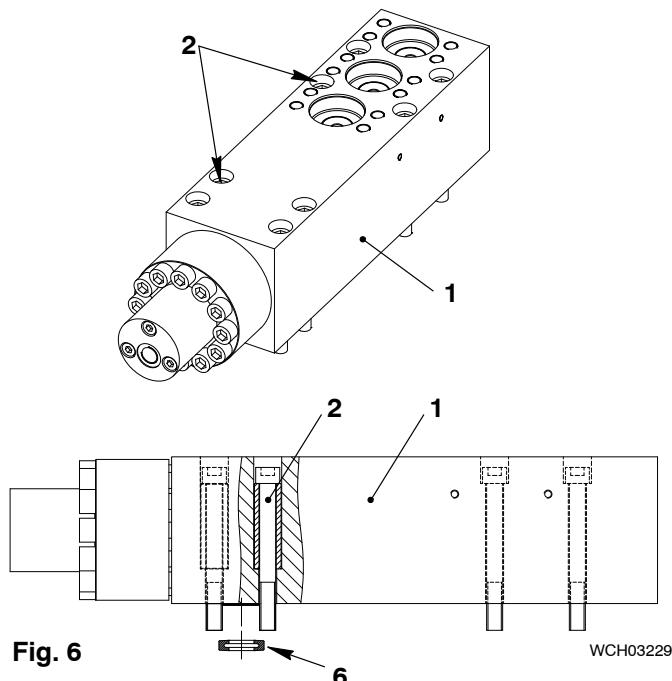

Fig. 6
- 2) Clean the sealing surface in the valve block (1, Fig. 6) and the lip seal (6). It is highly recommended to install a new lip seal (6).
- 3) Install the lip seal (6).
- 6) Apply Never Seez NSBT to the threads and contact surfaces of the eight bolts (2).
- 7) Put in the eight bolts (2) together with distance sleeves into the valve block and tighten the bolts (2) by hand.
- 8) Tighten the eight bolts (2) with a torque of 60Nm.